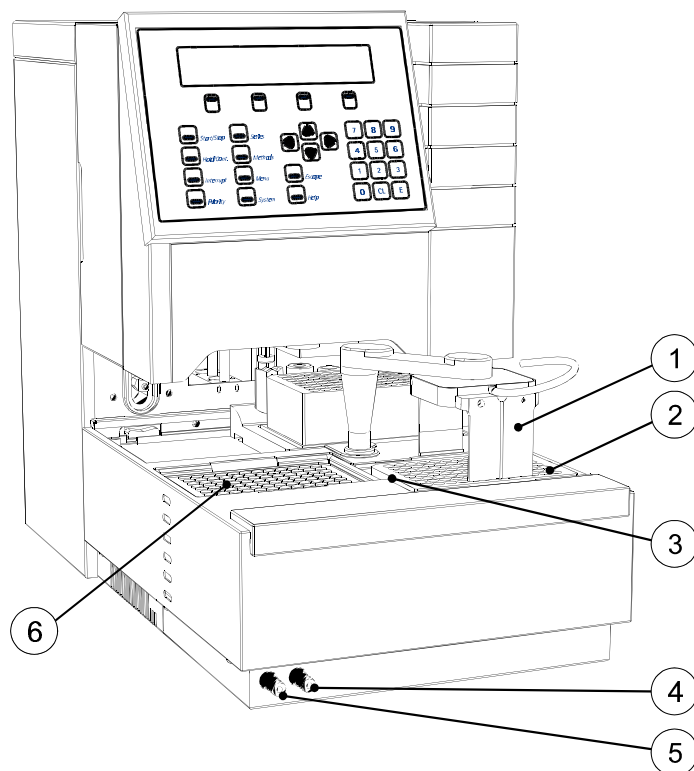

Figure 2.4 Feeder option
- <LEFT-LIFT> to move the left lift up or down (refer to Figure 2.4)
- <RIGHT-LIFT> to move the right lift up or down (refer to Figure 2.4)
1. Place six or two plates (depending on settings) in the right lift (refer to Figure 2.4).
6. Place a plate on the right lift (see Figure 2.4, number 2).